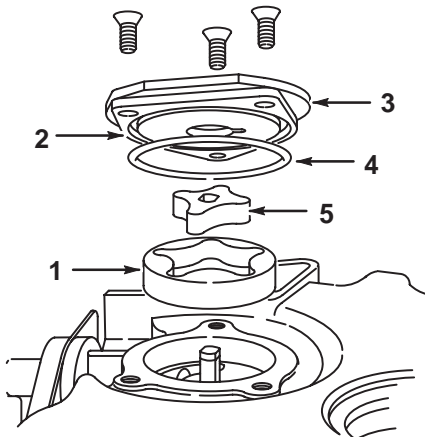

Fig. 114 – Installing Oil Pump
4. Place "O" ring in groove in cover, Fig. 114.